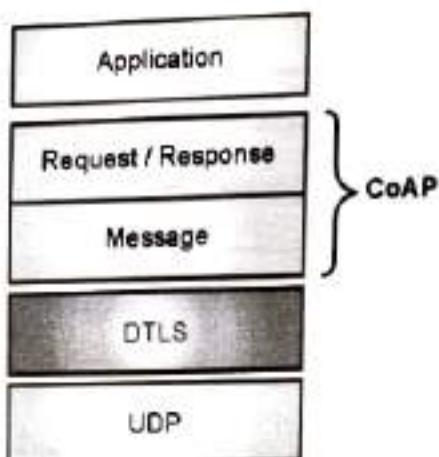

Fig. 4.6.13 : CoAP Security Aspects
- Fig. 4.6.13 shows security aspects of CoAP protocol.